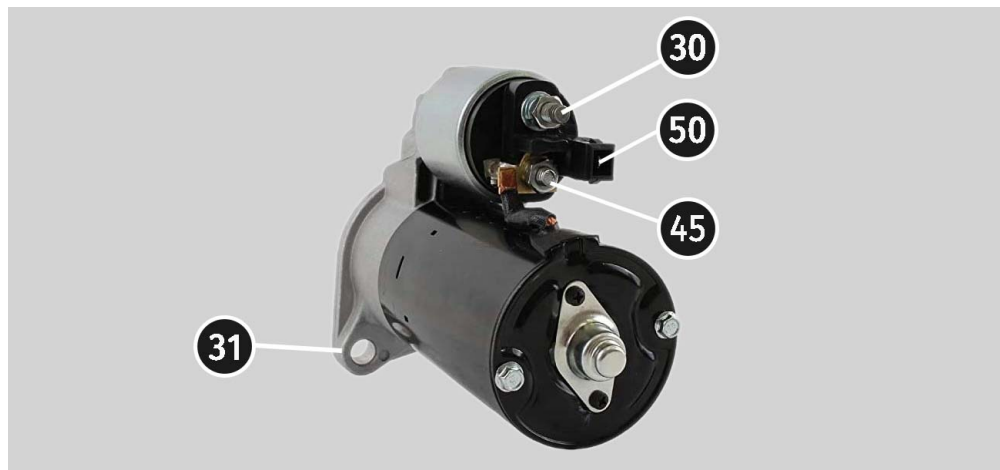

Figure 25. Terminal locations on the starter
3. Connect the bench connector "50" with a cable to the control output of the starter solenoid terminal 50, see Figure 25.
4. Connect the universal diagnostic cable K30 and K45 wires to the corresponding terminals of the starter, see Figure 25.